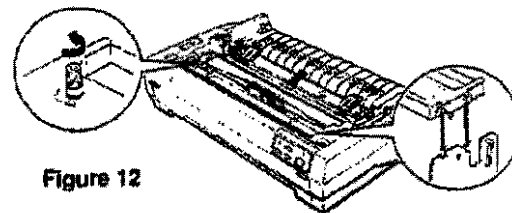

Figure 12
5. On the new cartridge, turn the ribbon-tightening knob in the direction of the arrow to remove any slack in the ribbon. Next, hold the ribbon cartridge by its handle and push it firmly down into position, then press on both ends of the cartridge to fit the plastic hooks into the slots (Figure 12).